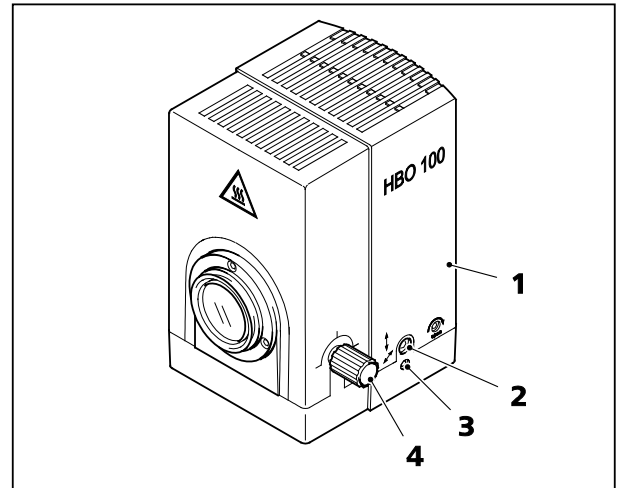

Fig. 55 Adjusting the HBO 100
Two versions (manual and automatic adjustment) of the HBO 100 illuminator (Fig. 55/1) are available.
- Focus the collector using the knurled knob (Fig. 55/4) to ensure that the brighter arc is sharply focused.
- Use the 3 mm ball-headed screwdriver and the adjusting screws for height (Fig. 55/2) and lateral adjustment (Fig. 55/3) to position the light arc image centrally next to the arc.